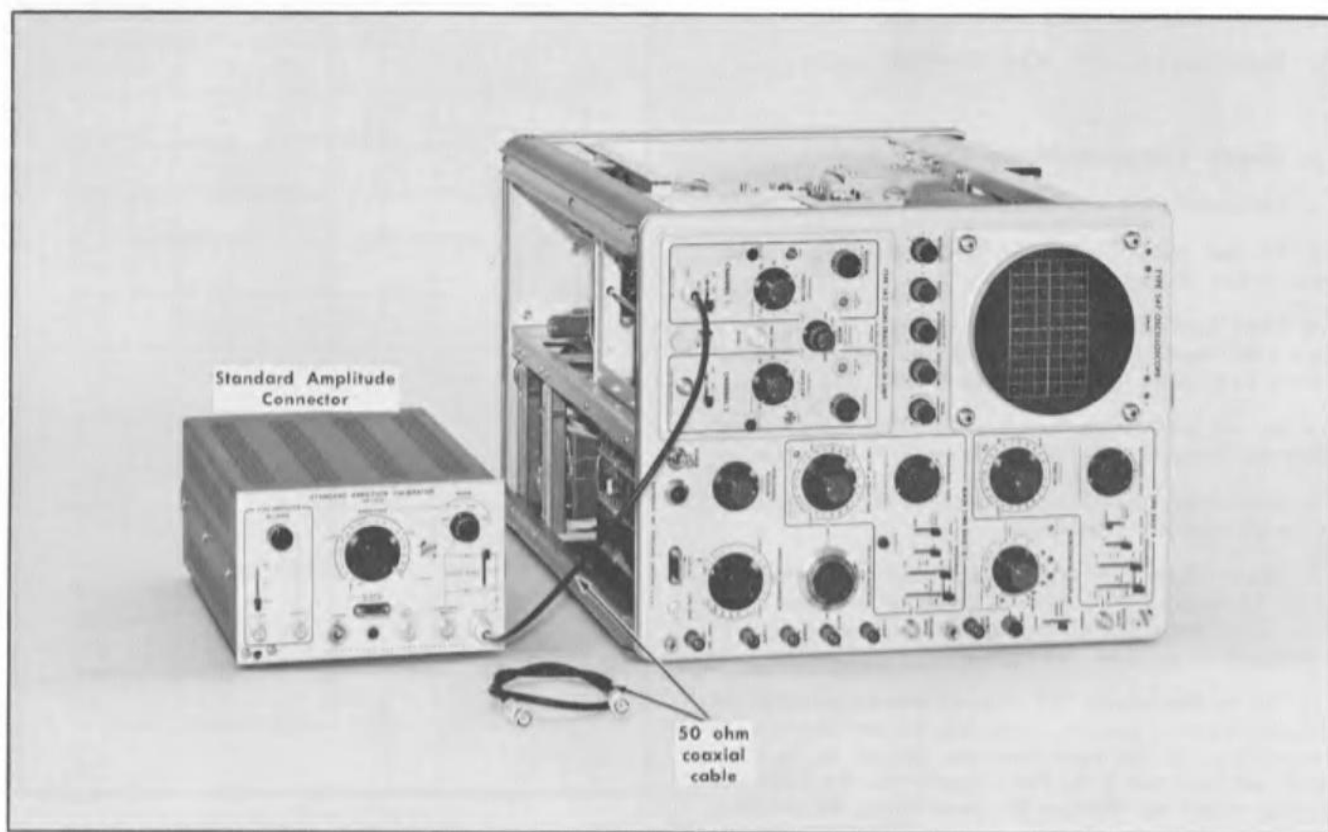

Fig. 7-8. Initial equipment setup for steps 17 and 18.
- a. Equipment setup is shown in Fig. 7-8